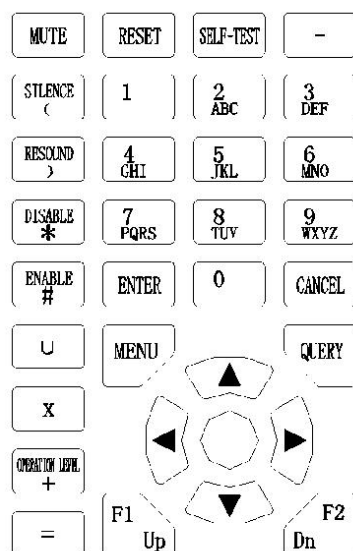

Fig. 3-5
- Diagram is shown in Figure 3-5.